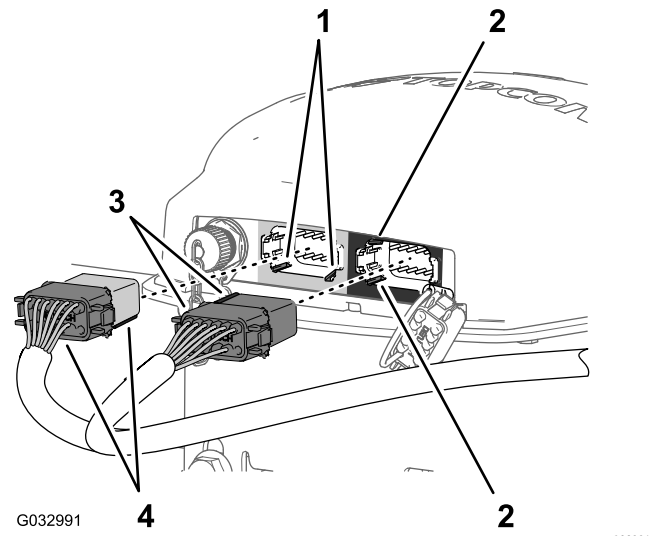

Figure 159
- Align the 2 keys at the long face of the gray and black 12-socket connector of the data harness with the 2 key slots in the bottom, horizontal wall of the left (gray) 12-pin connector of the navigation receiver (Figure 159).
- Connect the gray and black 12-socket connector of the data harness into the left (gray) 12-pin connector of the navigation receiver until the connector locks snap together securely (Figure 159).
- Align the 2 keys at the short side of the black 12-socket connector of the data harness with the 2 key slots in the left, vertical wall of the right (black) 12-pin connector of the navigation receiver (Figure 159).
- Connect the black only 12-socket connector of the data harness into the left (black) 12-pin connector of the navigation receiver until the connector locks snap together securely (Figure 159).